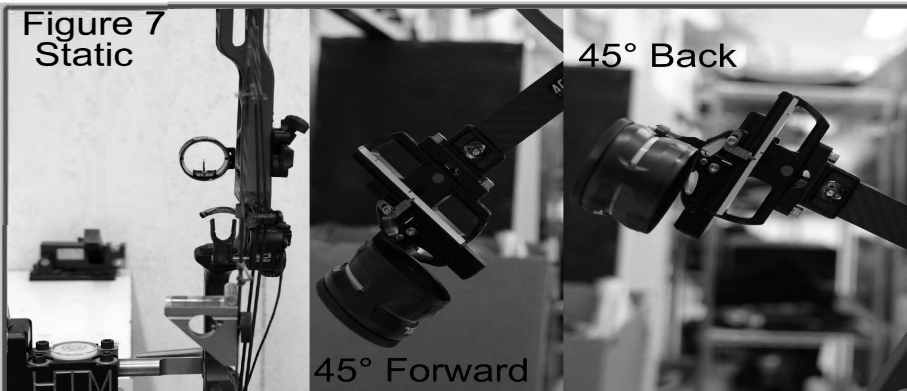

Figure 8
Figure 8- Your sight comes with a white sight scale tape installed. Sight in your 20 yard mark and insure the (M) Red Sight Scale Pointer is near the top of the white tape (by loosening, locating, and re-tightening the #4-40" x 3/16" long SHCS using a 3/32" hex wrench). Use a pencil or pen to mark the white tape at your 20 yard position. Then, step back to whatever yardage where you feel comfortable (30, 40, 50, 60, etc) and mark the Red Sight Scale Pointer position on the white tape. When you are confident that your two marks are accurate, compare the marks on your white tape to the pre-printed sight scales included in your package and choose the closest scale to your sighted distances. Turn your Rapid Elevation Knob back to the 20 yard mark on the white tape. Figure 2- Tighten the (N) Red Tension Lever to insure no movement until your accurate Sight Scale Tape is installed. Remove the white tape. Cut out the correct scale, peel backing, and place the accurate Sight Scale Tape under the Red Pointer where the 20 yard mark is aligned perfectly with pointer. Now, go back and check your sight at each distance of 20 yards, 30, 40, 50, etc. on the Sight Scale Tape to insure accuracy before proceeding to the next step.